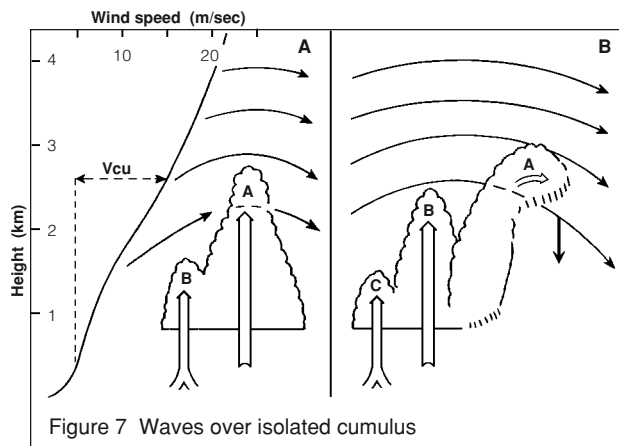

Figure 7 Waves over isolated cumulus
are more likely when the shear is stronger. Figure 7(a) shows the wind profile on the left and the flow over the cloud on the right. V_{cu} indicates the difference in speed between cloud and the wind over it. Figure 7(b) shows how the original cloud (A) collapses and top-les while younger clouds (B) and (C) grow on the up-shear side.